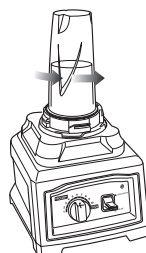
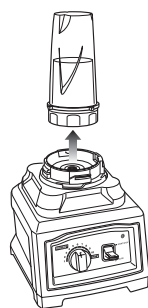

Fig. 12
Fig. 13
- 7 When you have reached your desired consistency, turn the Nutri Ninja Cup counter-clockwise (Fig.12) and pull straight up to remove. (Fig. 13)